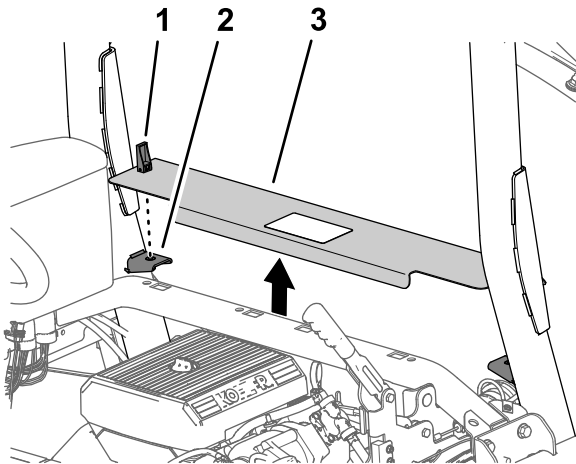

Figure 9
1. Rotate up the handles for the latches of the engine-access panel (Figure 9).
2. Lift the engine-access panel and remove it from the machine (Figure 9).